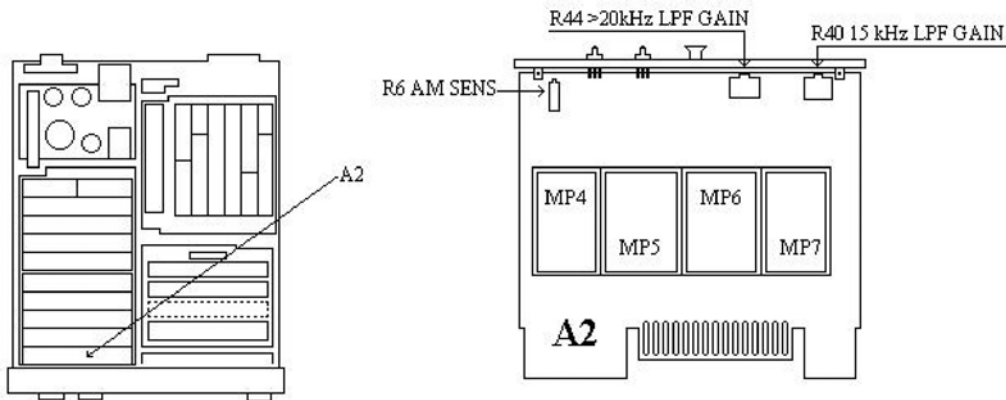
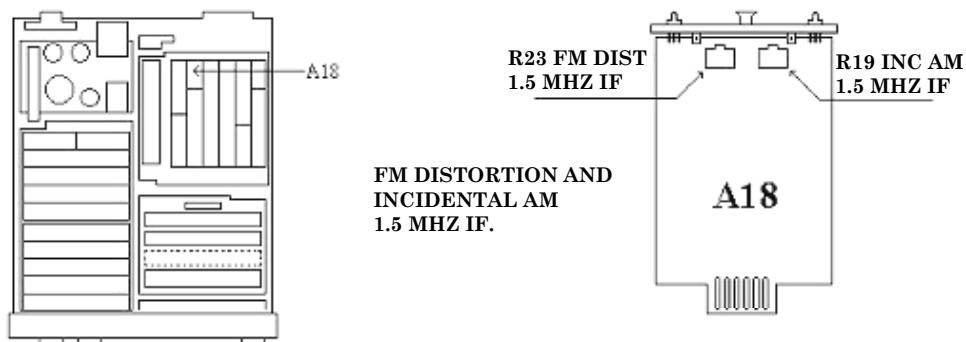
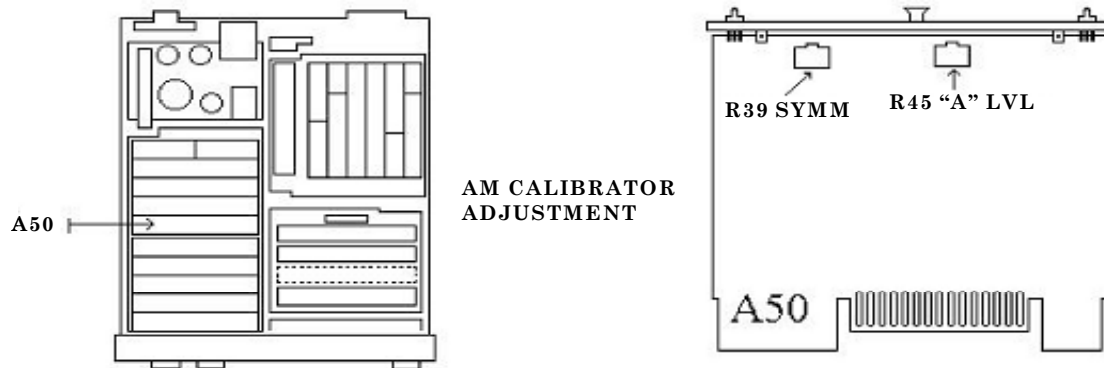

Figure 2. A2 board.
Figure 4. A18 board.
Figure 5. A50 board.
- (3) Connect TI sensor module to signal generator No. 1 **RF OUTPUT**.
- (4) Set signal generator No. 1 for an output frequency of 500 MHz at 3 dBm with 30 percent AM at a 1 kHz rate.
- (5) Adjust A2R44 >20kHz LPF GAIN (fig. 2) for a display of 99.95 to 100.05 percent (R).
- (6) Press TI **LP FILTER 15 kHz** key.
- (7) Adjust A2R40 15kHz LPF GAIN (fig. 2) for a display of 99.95 to 100.05 percent (R).
- (8) Disconnect TI sensor module from signal generator No. 1 **RF OUTPUT**.
- (9) Connect TI sensor module to TI **CALIBRATION RF POWER OUTPUT**.
- (10) Press TI keys as listed in (a) through (d) below:
(22) Adjust A18R23 FM DIST 1.5 MHz IF (fig. 4) for equal indications between TI **PEAK+** and **PEAK-(R)**.
(23) Press TI keys as listed in (a) and (b) below:
(24) Switch TI **DETECTOR** between **PEAK+** and **PEAK-**. The difference should be <1.6 kHz. If not, adjust A18R23 FM DIST 1.5 MHz IF (fig. 4) to reduce the difference by one-half. Note the indications as PK1+ and PK1-.
(25) Press TI ↑**kHz** key.
(26) Switch TI **DETECTOR** between **PEAK+** and **PEAK-**. Note the indications as PK2+ and PK2-.
(27) TI is properly adjusted when $[(PK1+ - PK1-) + (PK2+ - PK2-)] < 1.6$ kHz.
(28) Move connection from AM/FM test source **FM OUTPUT** to AM/FM test source **FM/4 OUTPUT**.
(29) Press TI keys as listed in (a) and (b) below:
(30) Set calibrator for a wideband output of 1 kHz at an amplitude of 250 mV.
(31) Adjust calibrator output level for a TI indication of 50 kHz.
(32) Press TI **MEASUREMENT AM** key.
(33) Adjust A18R19 INC AM 1.5 MHz IF (fig. 4) for a minimum display <0.2 percent (R).
(34) Disconnect equipment setup.
(35) Connect TI sensor module to TI **CALIBRATION AM/FM OUTPUT**.
(36) Press TI keys as listed in (a) and (b) below:
(37) Adjust A50R45 "A" LVL (fig. 5) for a display of 33.330 to 33.336 percent (R).
- (38) Press TI keys as listed in (a) and (b) below:
- (39) TI display should indicate between 1.8 and 2.2.
- (40) Press TI keys as listed in (a) through (d) below:
- (41) Alternately switch TI **DETECTOR** between **PEAK+** and **PEAK-**. Note the indications for each setting.
- (42) Adjust A50R39 SYMM (fig. 5) until the indications are the same for both detectors within ± 0.015 percent (R).
- (43) Press TI keys as listed in (a) and (b) below: